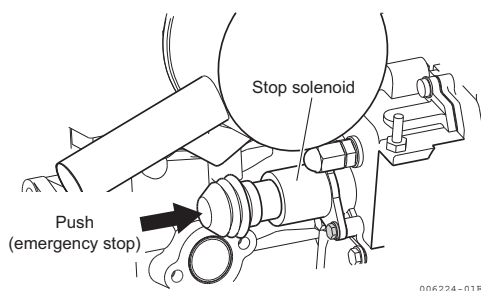

Figure 13
- 2- Operate the starter while pushing in the emergency stop button (**Figure 13**) on the back of the fuel pump. This stops the fuel supply.